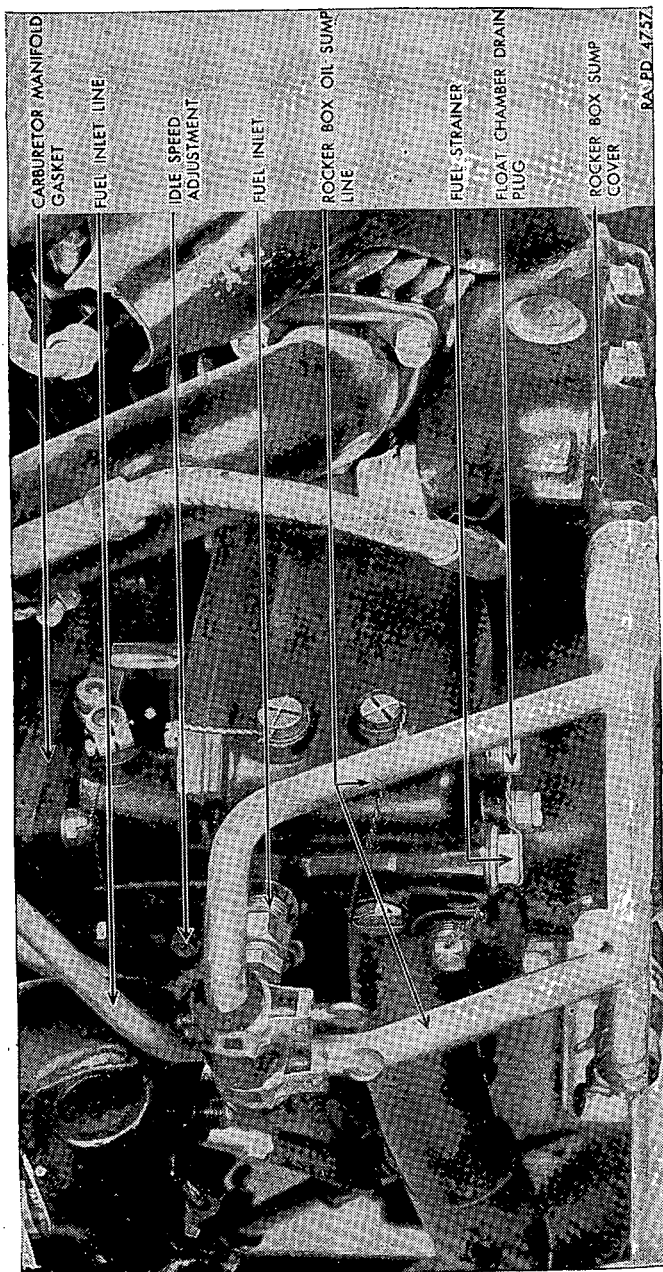

Figure 28.—Carburetor drain and rocker box scavenger line.
52. Carburetor (fig. 28).—*a. Description.*—The carburetor is a Bendix-Stromberg model NA-R6B and is attached directly to the intake manifold duct cast in the bottom of the engine crankcase.